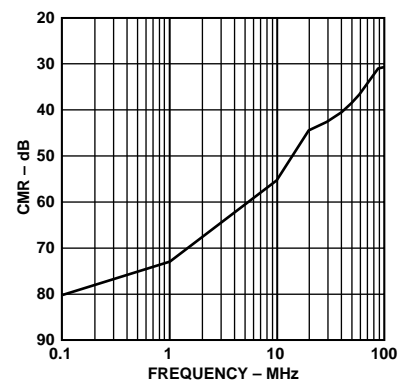

Figure 16. CMR vs. Input Frequency (Input Span = 2 V,  $V_{CM} = 2.5$  V)
Differential operation requires that VINA and VINB be simultaneously driven with two equal signals that are in and out of phase versions of the input signal. Differential operation of the AD9243 offers the following benefits: (1) Signal swings are smaller and therefore linearity requirements placed on the input signal source may be easier to achieve, (2) Signal swings are smaller and therefore may allow the use of op amps which may otherwise have been constrained by headroom limitations, (3) Differential operation minimizes even-order harmonic products, and (4) Differential operation offers noise immunity based on the device’s common-mode rejection as shown in Figure 16.